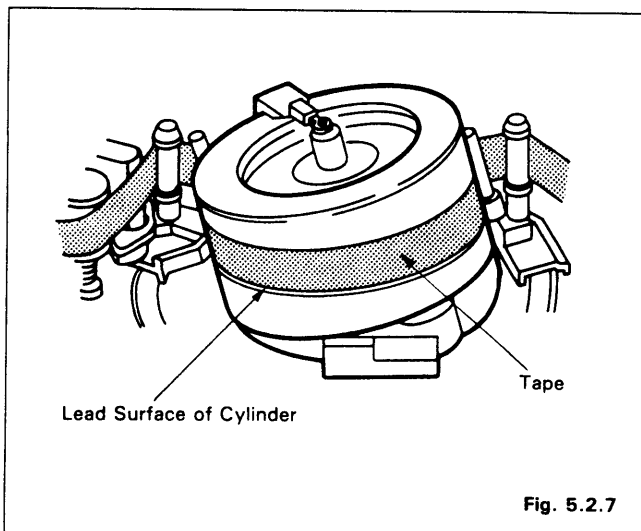

Fig. 5.2.7
4. Observe the tape transport at the lead surface of the cylinder during the PLAY mode, and confirm that the tape runs smoothly along the lead surface of the cylinder without slipping downward and upward. (Refer to Fig. 5.2.7)